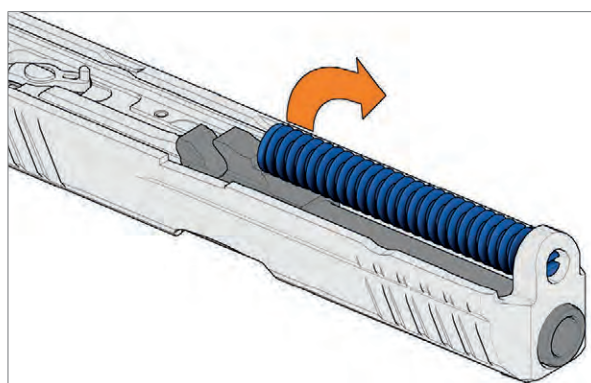

Fig. 50: Removing the recoil spring
6. Remove recoil spring from slide (Fig. 50).